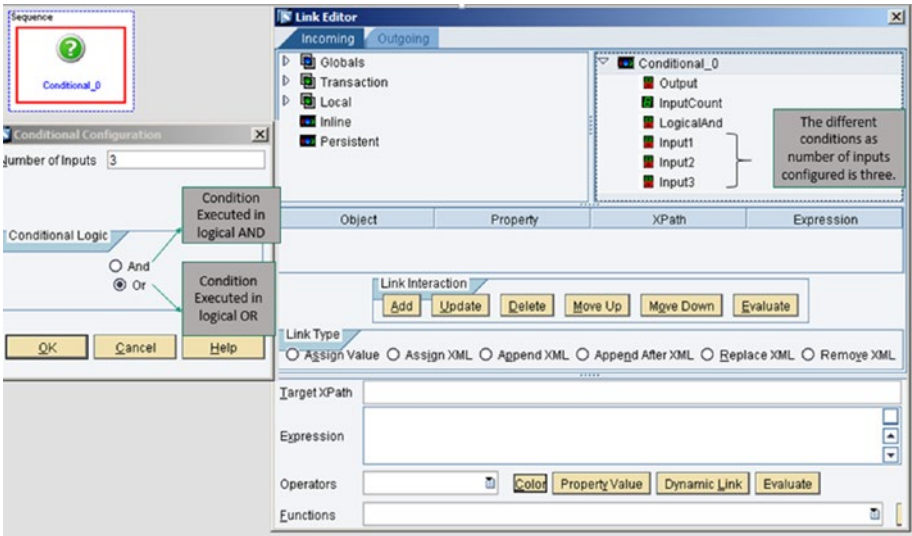

Figure 6-39. Condition action block
- Condition action:* This action is used to evaluate any number of conditions as configured and then navigate the logic toward true or false, as per the executed logic. See Figure 6-39.